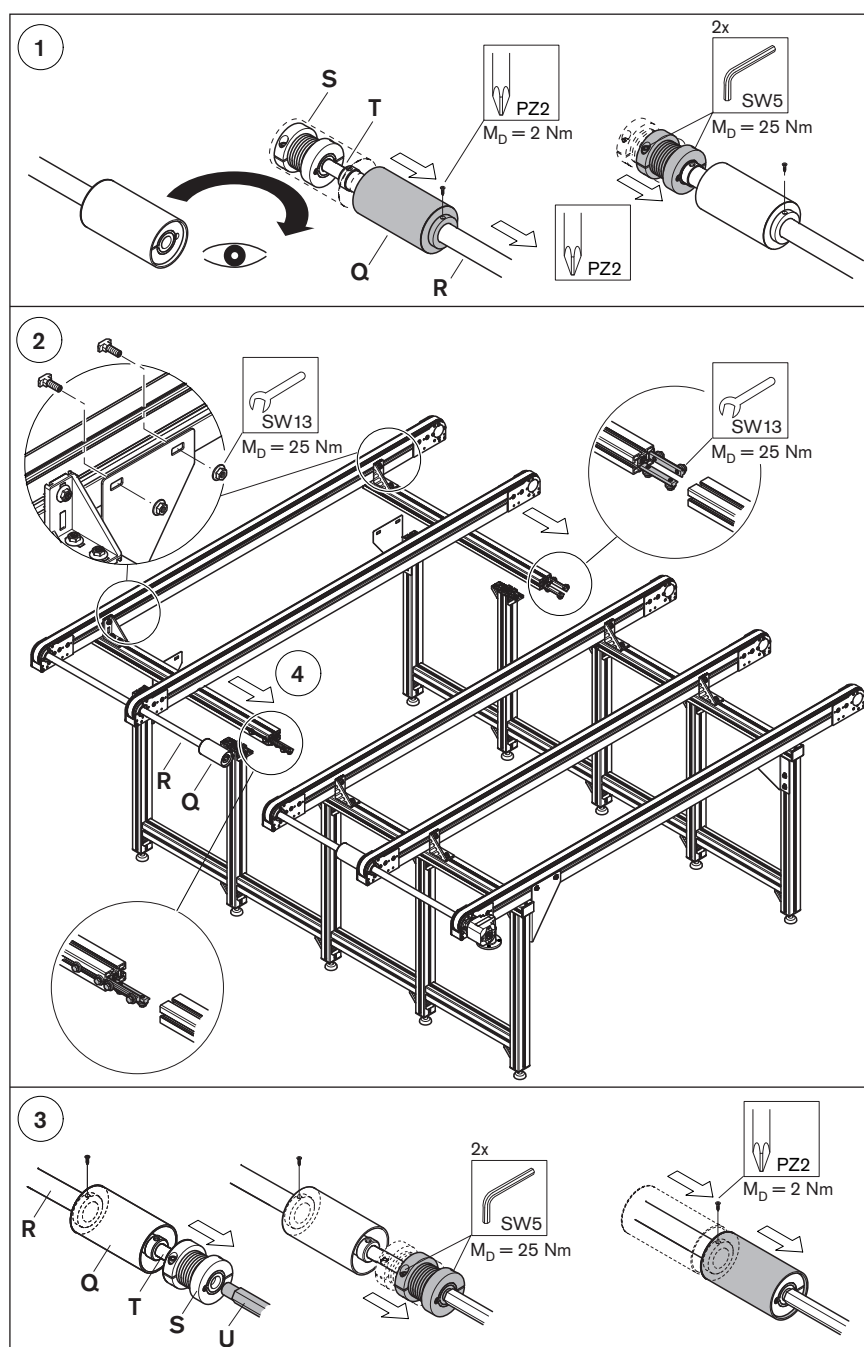

Fig. 8
- ▶ Connect the motor as a Y-connection or triangle connection in accordance with the connection plans; see “Fig. 8” on page 22 and the connection plan in the terminal box.
- ▶ Exchange any two wires (L1, L2 or L3, see “Fig. 8” on page 22) to change the motor's direction of rotation.